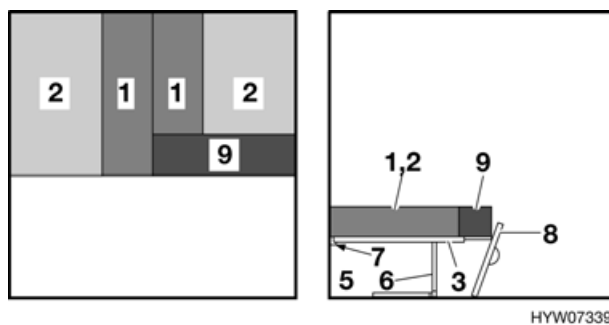

Fig. 35 After conversion (not for Troll 530)
- Place the back cushions (Fig. 35,1) between the two seat cushions (Fig. 35,2).
- Depending on the model, place the additional cushion (Fig. 35,9) on top.